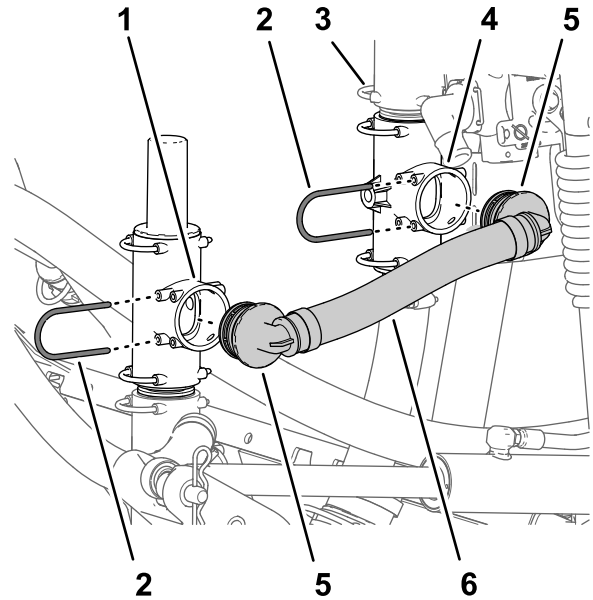

Figure 9
1. Align the 90° fitting of the pressure relief-hose assembly with the open port in the upper T-fitting (located below the pressure-relief valve), and insert the 90° fitting until it is fully seated (Figure 9).
2. Secure the 90° T-fitting with the retainer (Figure 9) that you removed in step 2 of Removing the Hoses \(page 4\).
3. Align the other 90° fitting of the pressure relief-hose assembly with the open port of the lower T-fitting (secure to the valve mount) and insert the 90° fitting until it is fully seated (Figure 9).
4. Secure the 90° fitting to the upper T-fitting with the retainer (Figure 9) that you removed in step 2 of Removing the Hoses \(page 4\).
4. Secure the straight-barbed fitting to the eductor valve (Figure 9) with a retainer.